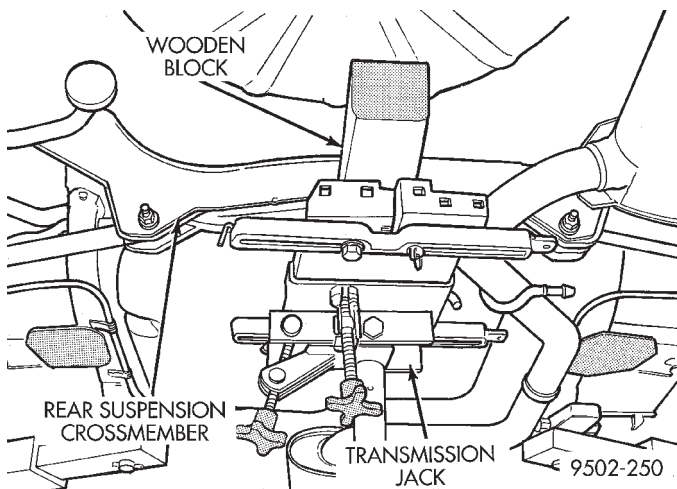

Fig. 25 Lowering And Supporting Rear Suspension Crossmember
(7) Position a transmission jack and wooden block under the center of the rear suspension crossmember to support and lower crossmember during removal (Fig. 25).